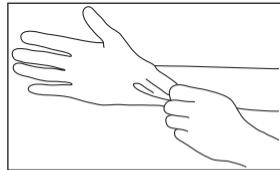

Fig. 6
1) Always wear protective gloves, a mask, and protective goggles for safety purposes and to minimize the risk of infection (Fig. 6).